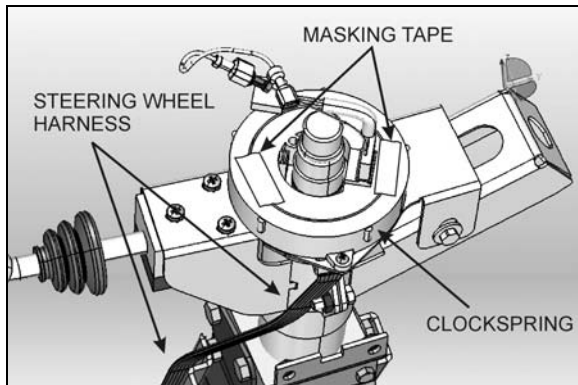

FIGURE 12: LOCKING THE CLOCKSPRING IN PLACE
7. Once the steering wheel is removed, it is important to block any rotating movement of the clockspring in order to prevent it from losing its neutral position. Use two pieces of masking tape to lock it in place (Fig. 12).